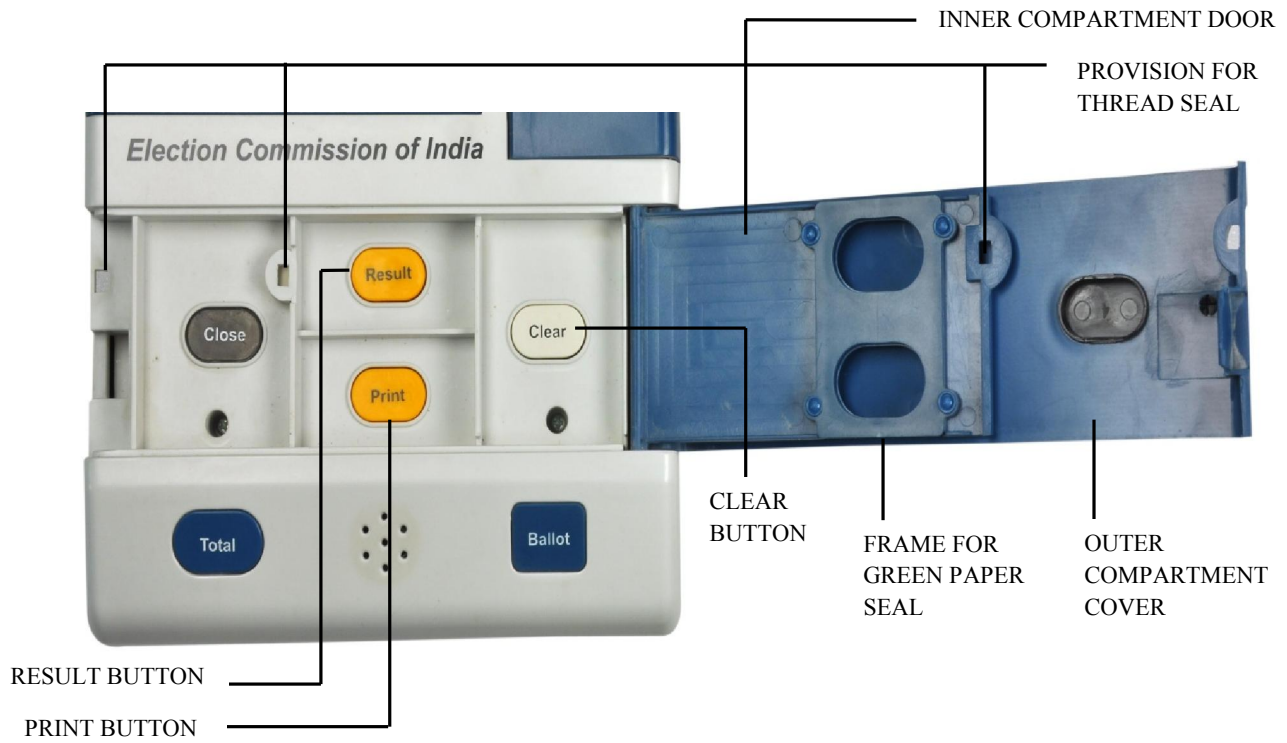

Fig.11 View of Inner Compartment of Result Section
23. The door of the inner compartment has two elliptical apertures through which buttons marked 'Result' and 'Print' are seen. The inner door can be opened by inserting the thumb and finger through the two apertures above the 'Result and Print' buttons. On opening the door of the inner compartment by inserting finger, and thumb through the holes which are marked 'Result' and 'Print' and pulling the cover up, there will be seen on its inner side a frame around the two apertures for fixing green paper seal. This will also reveal three sub-sections with two yellow buttons marked 'Result' and 'Print' and a white 'Clear' button. The description of this para refers to Fig. 11.
##### Clear Button (Fig. 11)
### **Result Button (Fig. 11)**